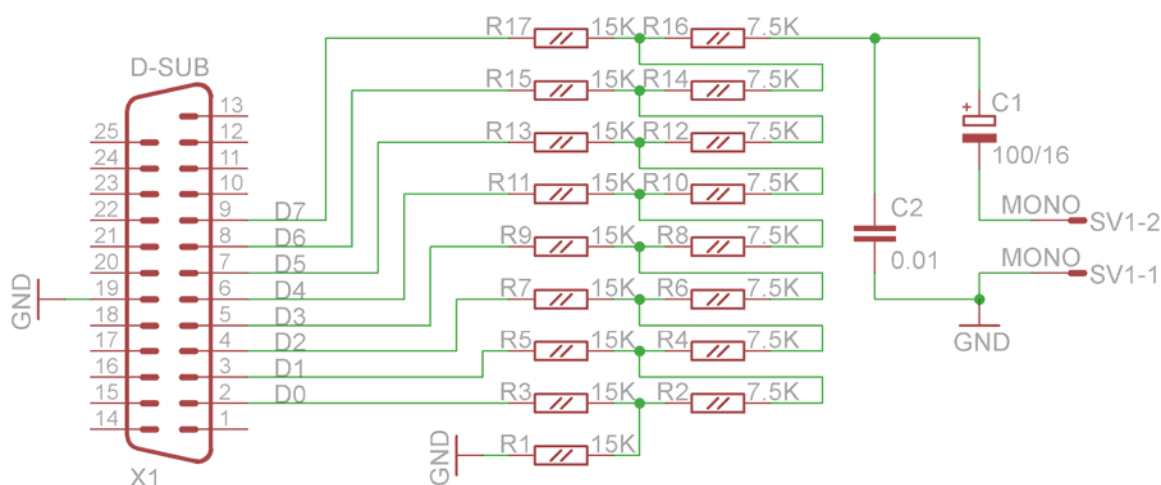

Figure 3. Typical circuit diagram of the Covox device
Design of the Covox circuit is more or less unified, with minor differences in the value of resistors, existence of filtering and decoupling capacitors, and output impedance resistor. Look at the circuit shown on the fig. 3. As you may have read in the Wikipedia article about resistor ladders (recommended reading!), it is very important to have one set of resistors to be twice of value to another set. On this diagram, we have 7.5K and 15K resistors, which define the current, and thus amplitude of the voltage at the positive input of the capacitor C1.
- Device connected to the output of the circuit will drain (or add) current flow to the circuit, distorting ideal output values. That's why Covox device, by default, has current limiting resistor at its output (R_{16} on fig. 3), increasing impedance of the output to at least value of R , and a capacitor ($C1$ on fig. 3) achieving DC-DC decoupling of the Covox and further circuit;
- Input lines' voltage levels may be lower than supply (U) for logical 1, and higher than 0 for logical 0, adding/draining the different current than calculated.